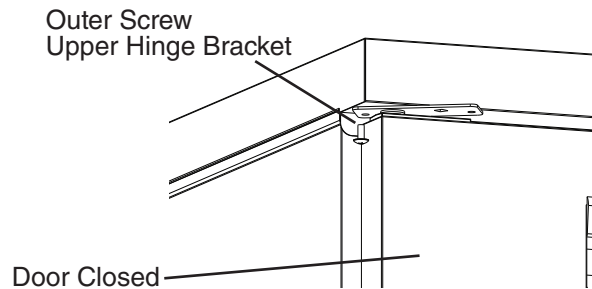

Fig. 17
- 12) Install the outer screw into the upper hinge bracket. Do not tighten the screw yet. Start the screw for a few threads only and leave loose. See Fig. 17.